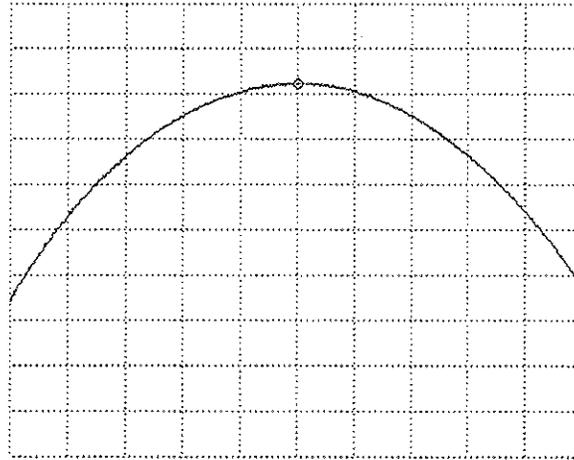

Figure 1-12. Second IF Adjustment
11. Alternately adjust A61 L4 and L5 to center the peak and equalize the level of the sides (see figure 1-12).